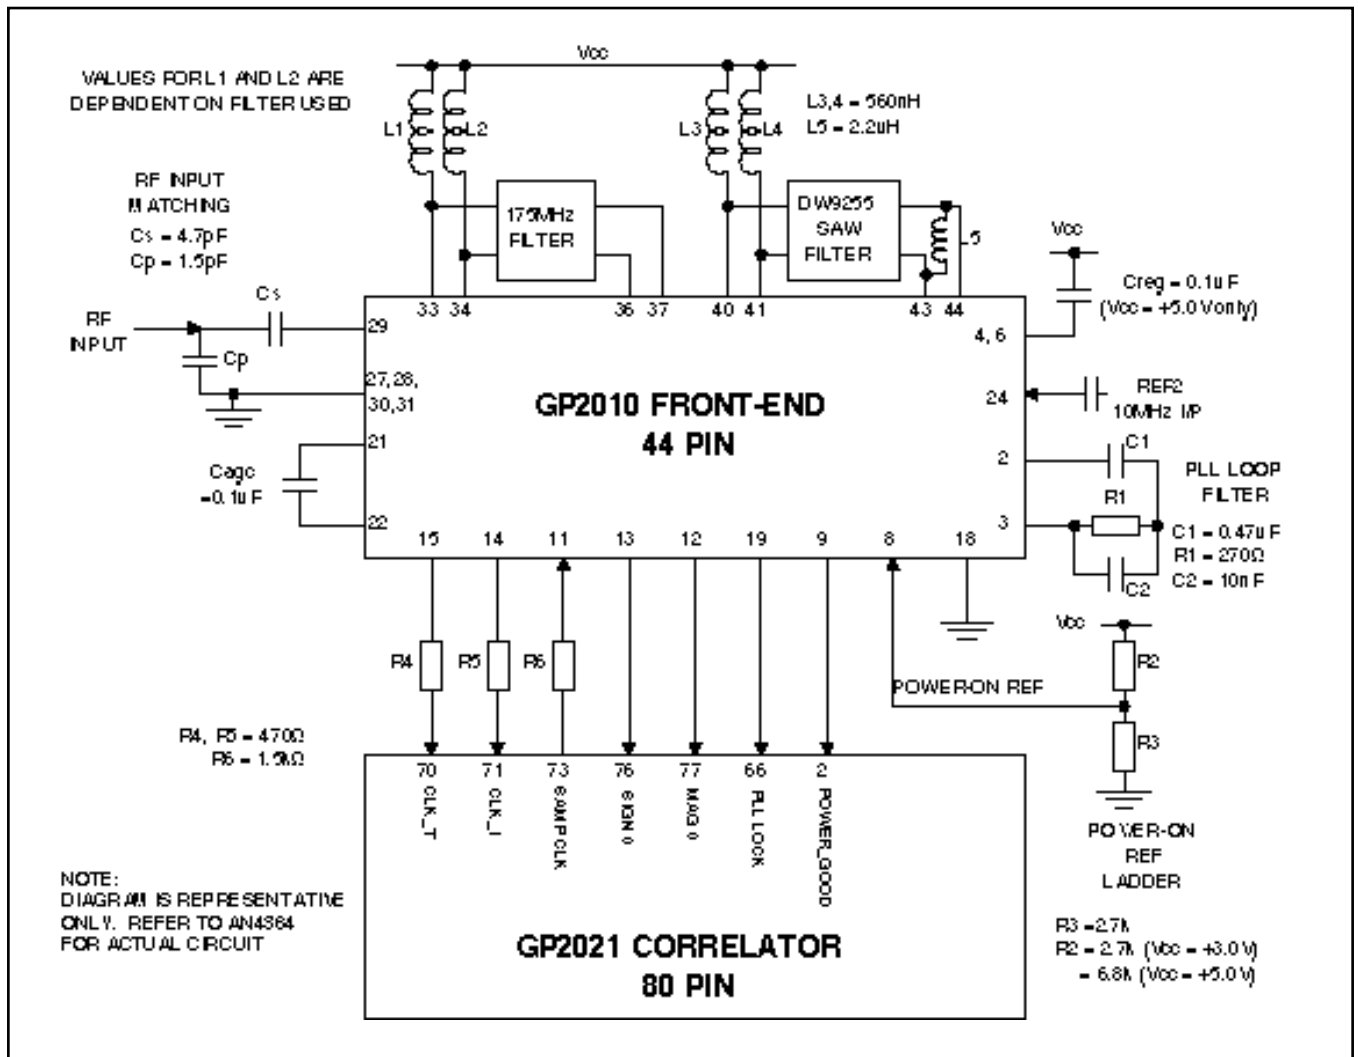

Fig. 4 GP2010 typical application
A typical application circuit is shown in figure 4 with the GP2010 front-end interfaced to the GP2021 12 channel correlator integrated circuit. The RF input has an unmatched input impedance (see page 4). The RF input matching components  $C_s$  and  $C_p$  should be mounted as close to the RF input as possible: also the Vee(RF) tracks must be kept as short as possible. A SAW may be used as a 175.42MHz filter, but this can be replaced by a simpler coupled-tuned LC filter if there is no critical out-of band jamming immunity requirement. The DC bias to mixer 1 is provided via inductors L1 and L2, which may form part of the 175.42MHz filter. The output of mixer 2 requires an external dc bias, achieved with inductors L3 and L4, which also serve to tune out the input capacitance of the DW9255 SAW filter. The output of the SAW is tuned with inductor L5. The AGC capacitor ( $C_{agc}$ ) determines the AGC time-constant. The PLL loop filter components are selected to give a PLL loop bandwidth of approx. 10kHz. The IF Output is normally used for test-purposes only, but is available to the user if required. Typically a low noise preamplifier (gain  $> +15dB$ ) is used, and may be located with a remote antenna.